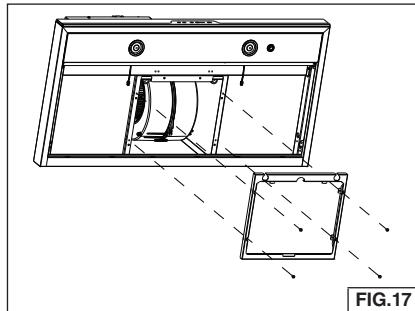

FIG.17
5. Attach non-duct filter frame using (4) 3.9 x 6 mm screws. Fig. 17.